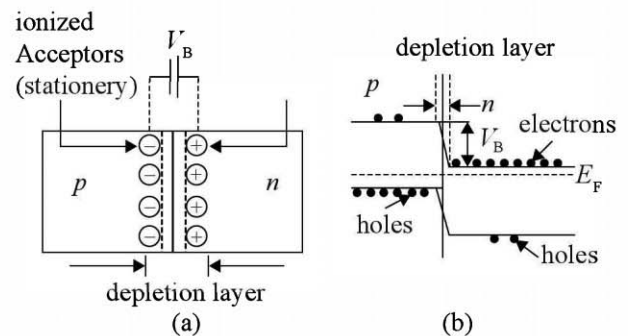

Fig. 19.4 (a)  $pn$  junction (b) Energy band diagram of a  $p$ - $n$  junction
**Potential barrier and Depletion layer** Due to charge density gradient, electrons from  $n$ -type move towards  $p$ -type close to the junction and are accepted by acceptor impurity atoms present there. Similarly, holes from  $p$ -type ionize impurity atoms present close to the junction forming a **fictitious battery**  $V_B$  or **potential barrier**  $V_B$ . Potential barrier and depletion layer are illustrated in Fig. 19.4 (a) and 19.4 (b).